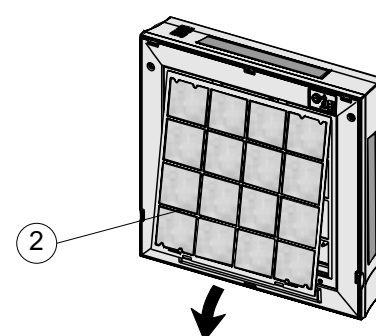

Figure 2
- Remove the main air filter (2) (see figure 2)